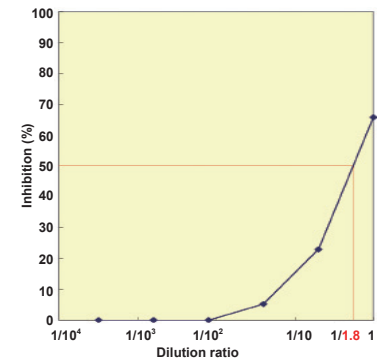

Fig.5 Inhibition curve of erythrocyte
- 1) Read the dilution ratio at 50% inhibition (IC₅₀) from the inhibition curve (Fig.5). The dilution ratio at IC₅₀ is 1/1.8.